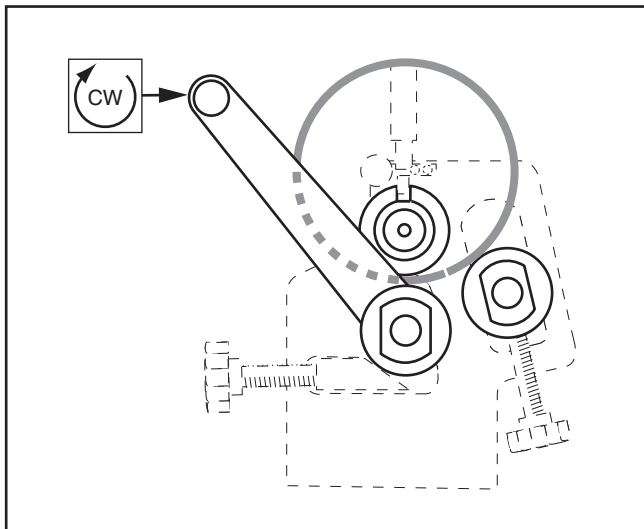

Figure 27. Finishing cylinder.
- Continue to feed workpiece until cylinder is formed, as shown in **Figure 27**.